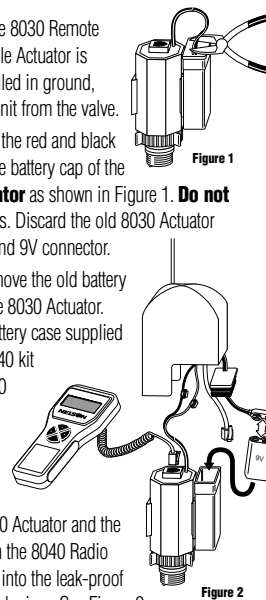

Figure 1
Step 2) Cut the red and black wires near the battery cap of the **8030 Actuator** as shown in Figure 1. **Do not** strip the wires. Discard the old 8030 Actuator battery cap and 9V connector.